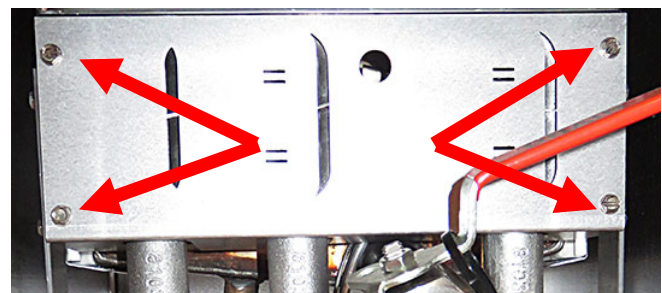

Figure 1
1. Remove the burner shield by removing the four (4) screws attaching the shield to the fryer (see Figure 1).